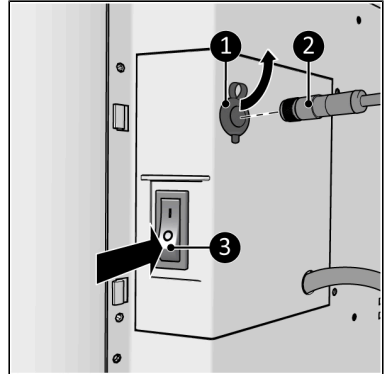

Figure 14.
1. Make sure the ON/OFF switch is in the OFF position (Figure 14, pos. 3).
2. Connect the external temperature sensor connector (Figure 14, pos. 2) to the sensor plug.